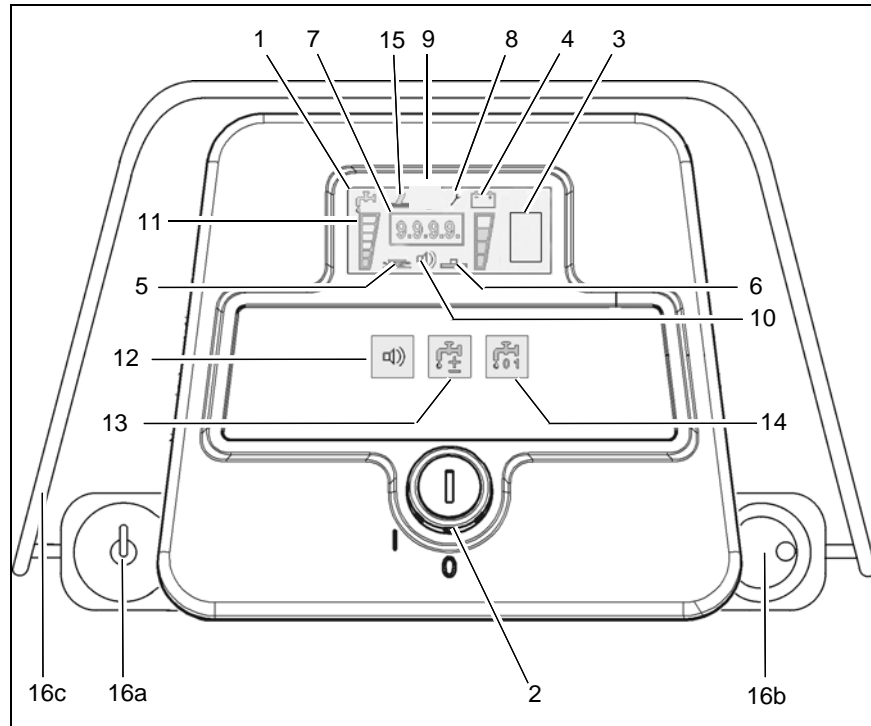

Fig.4
3. Switch on solution supply by means of tip-switch (Fig. 4/14).
4. Adjust solution amount by means of tip-switch (Fig. 4/13). Lower brush deck via pedal (Fig. 3/8). Solution supply and brush deck starts automatically.
5. Use the speed control knob (Fig. 4/16b) to adjust the work speed. Use the direction switch (Fig. 4/16a) to select forward or reverse. Pull the bail handle (Fig. 4/16c) to start moving.
### Display (Fig. 4/1)
### Battery charge indication (Fig. 4/3)
### LDS indicator (Fig. 4/4)
### Symbol brush drive (Fig. 4/5)
### Symbol suction turbine drive (Fig. 4/6)
### Hourmeter (Fig. 4/7)
### Service indicator (Fig. 4/8)
free (Fig. 4/9)
(Fig. 4/10)
**Solution dosage symbol (Fig. 4/11)**
**Silence Kit tip-switch (optional) (Fig. 4/12)**
**Solution dosage tip-switch (Fig. 4/13)**
(Fig. 4/14)
free (Fig. 4/15)
**Drive direction control with speed control knob/bail handle (Fig. 4/16)**